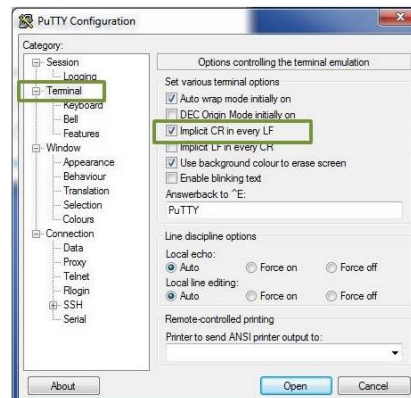

Figure 8: PuTTY Configuration - 2
3. Under Category, select "Terminal", and check "Implicit CR in every LF" checkbox (refer to Figure 8).